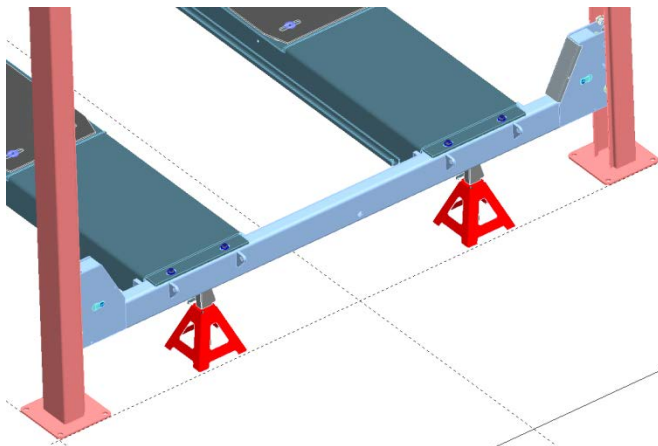

Figure 30
- Transfer jack stands from under the decks to under rear cross-member (**Fig.30**).